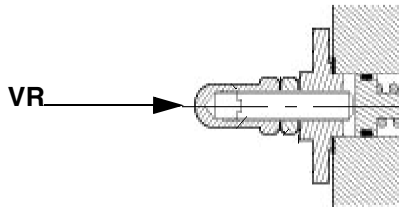

Fig. 24 - Suntec TV governor
- 11 The nozzle supply pressure is already factory-set and must not be changed. Only if necessary, adjust the supply pressure as follows (see related paragraph); read the pressure on the oil pressure gauge on Fig. 25 and act on on the Suntec TV governor adjusting screw **VR** (see Fig. 24 and description on page 23) as to get the nozzle pressure at 2bar (see step 8). If the required flow rate is not reached, increase the feeding pressure by means of the Suntec TV governor (see picture below)